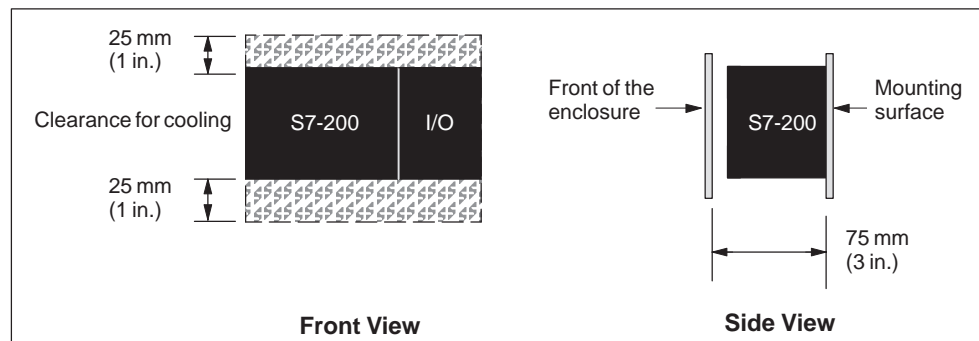

Figure 2-2 Horizontal and Vertical Clearance Requirements for Installing an S7-200 PLC
- The S7-200 CPU and expansion modules are designed for natural convection cooling. You must provide a clearance of at least 25 mm (1 in.), both above and below the units, for proper cooling. See Figure 2-2. Continuous operation of all electronic products at maximum ambient temperature and load reduces their life.
- Allow 75 mm (3 in.) for mounting depth. See Figure 2-2.